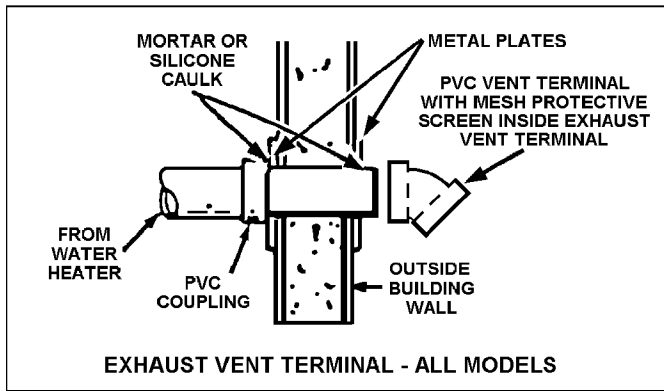

FIGURE 22
8. If the vent pipe is installed up to the wall, with a coupling on the end against the wall opening, the pipe with the vent terminal can be prepared for gluing before inserting through the wall. Slide the pipe through the wall and insert into coupling on the other side of the wall, making sure that the vent terminal ends up pointed in the correct position (see Figure 22).